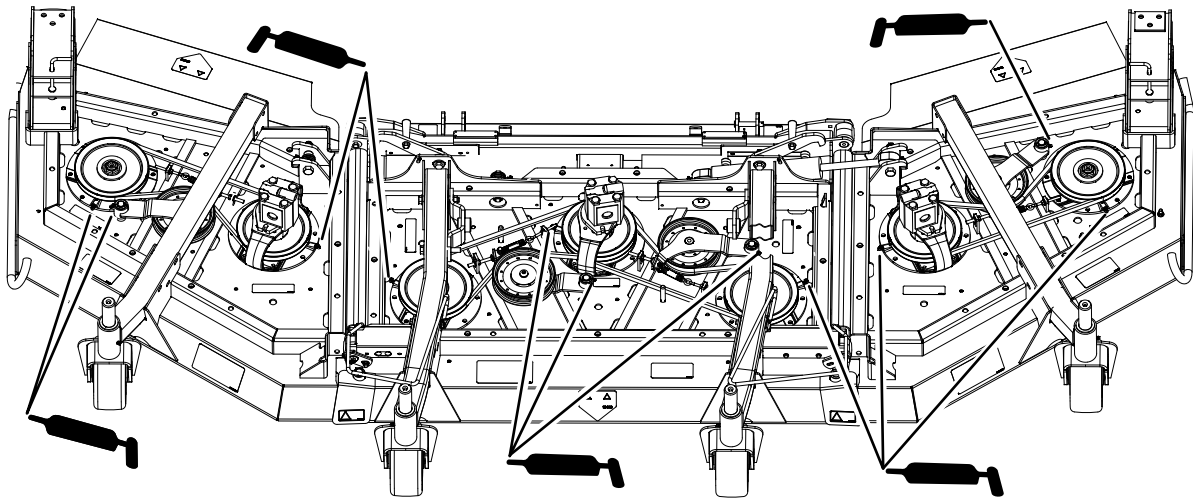

Figure 83
- 3 spindle-shaft bearings—located under the pulley (Figure 83)
- 2 idler-arm-pivot bushings (Figure 83)